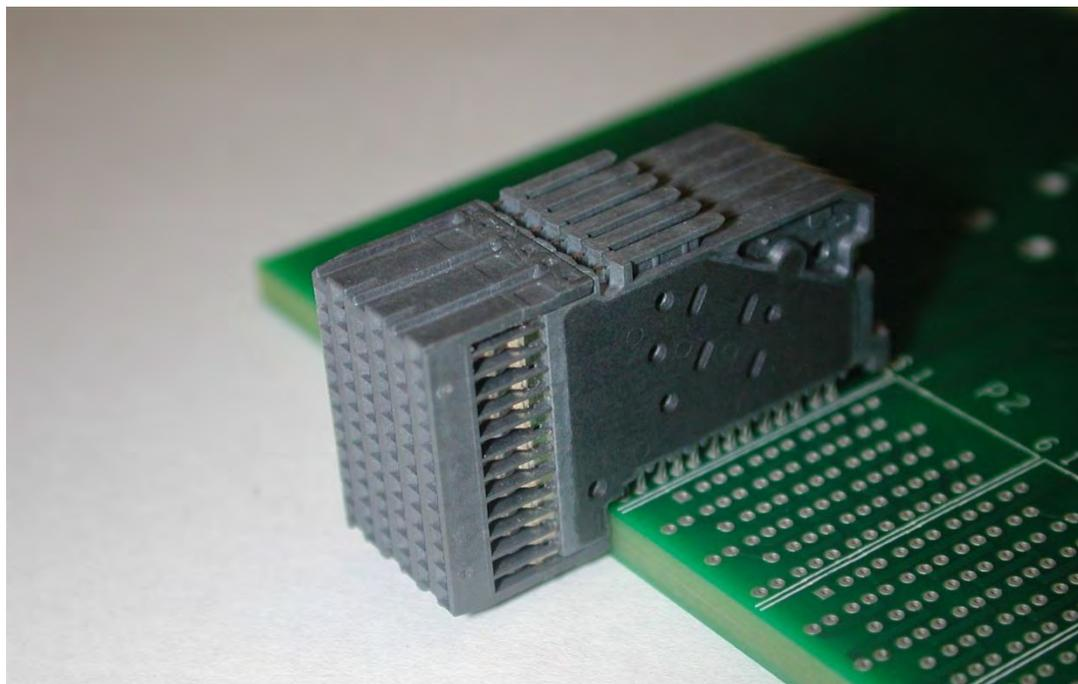

Figure 11: Daughtercard module pre-seated (manually placed)
- Step 5.** Pre-seat all new wafers into the plated through holes on the PCB (see Figure 11).